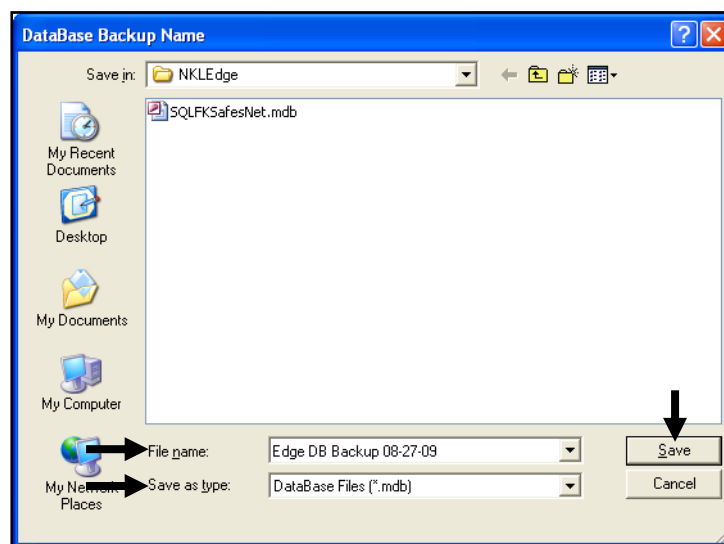

Fig. 10.2
- 2) Enter a file name and select the file location. Select **Save** to complete the process (Fig. 10.2).